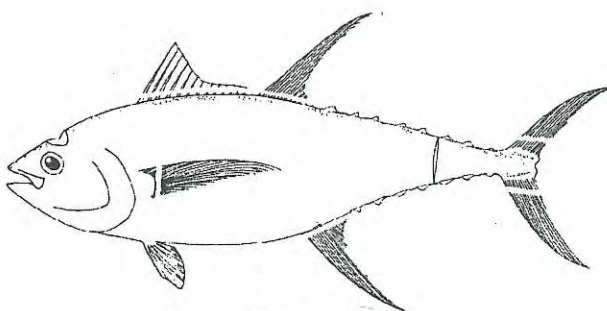

Figure 19. Remove all fins.
Step 15 Remove all fins, and even the tail, if desired (Figure 19 and 20).